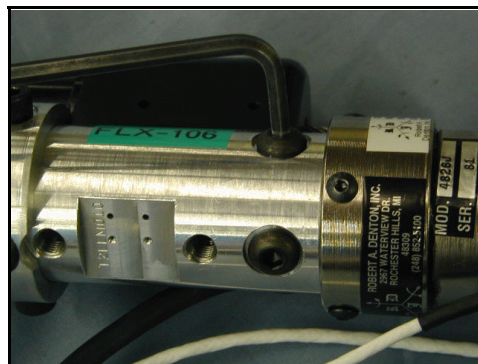

Figure 3.47 - Remove bolts from bottom of tibia tube (front and sides)
2. Remove the front and two side mounting bolts which connect the lower tibia tube to the lower tibia load cell, as shown in **Figure 3.47**.